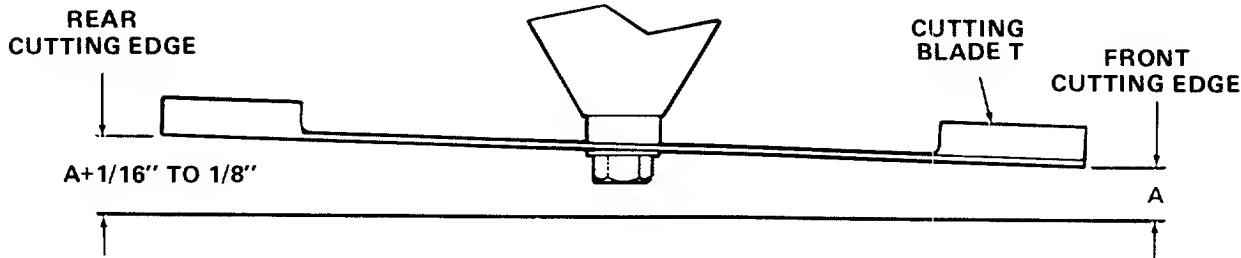

Figure 32
5. Refer to Figure 32. Measure and record the distance from the hard, level surface to the CUTTING EDGE at the front and rear of each of the
11. With the lift handle in position number 6, repeat and record the blade measurements described in step 5. Refer to your recorded cutting-edge-to-ground measurements. Each of the two blades must have a downward tilt toward the front of the tractor. A proper tilt is achieved when a blade's rear cutting-edge-to-ground measurement (measurement A+, Figure 32) is $1/16$ to $1/8$ inch higher than that blade's front cutting-edge-to-ground measurement (measurement A, Figure 32). If a proper tilt does not exist for one or both of the blades, refer to step 12.